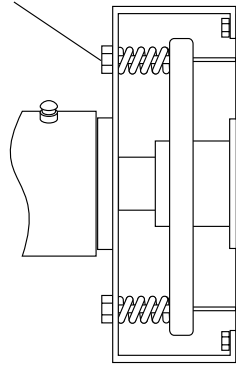

Figure 39. Drum Seal Adjusting Nuts
2. As the seals naturally wear, material will seep from the drum head. Tighten the adjusting nuts (Figure 39) equally until a slight pressure is felt. The seals are now tight. This procedure should be done periodically as the seals leak.